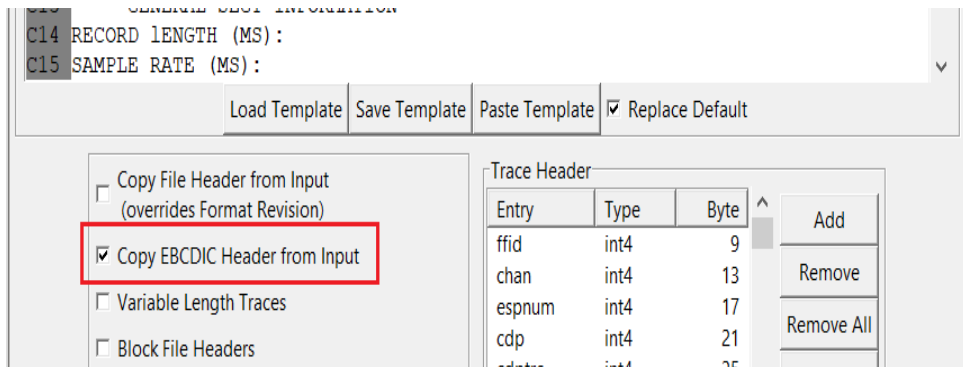

Figure 5-2 Copy EBCDIC Header from input
2. If required, edit or replace the Textural File Header (EBCDIC) for the output SEGY:use copy from the input when the datain file is SEGY. Check the box next to **Copy EBCDIC Header from Input** on the SEGY Output option panel (Figure 5-2 below).